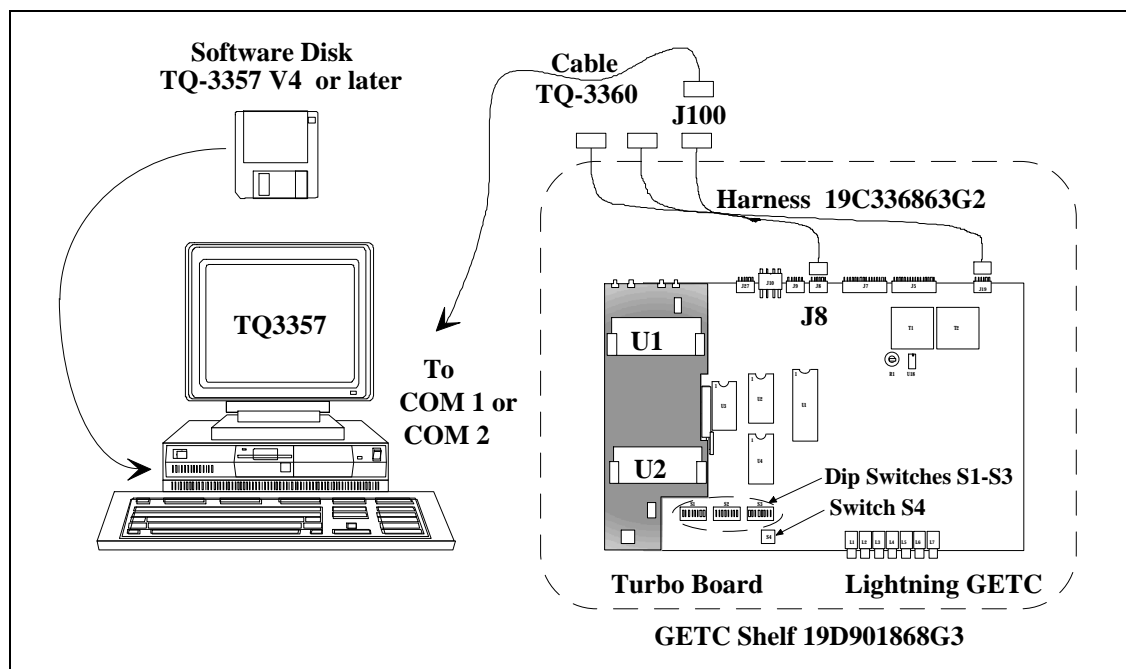
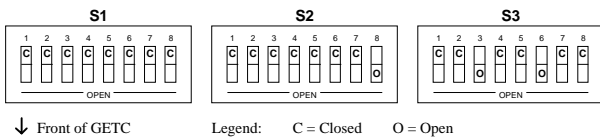

Figure 12 - System Hook-Up Using J100
Figure 13 - DIP Switch Settings
1. One end of the serial programming cable (TQ-3360) should be connected to the computer. The other end of the serial cable connects to the GETC Shelf connector J100, see Figure 12.
2. Set the GETC DIP switches S1, S2, and S3 for the programming mode as shown in Figure 13. DIP switches S1-S3 are located near the front of the GETC Shelf, see Figure 12.
3. Reset the GETC by either applying power or pressing the GETC RESET switch S4, located just below the DIP switches. See Figure 12. Resetting the GETC, in